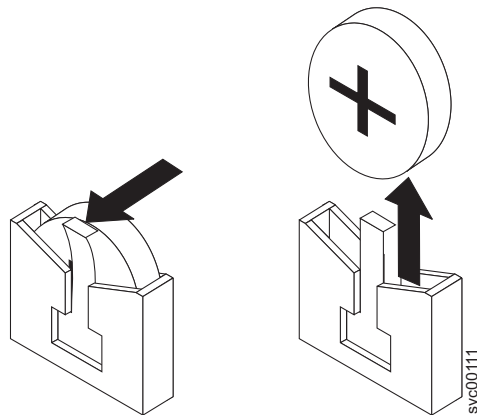

Figure 111. SAN Volume Controller 2145-8F2 or the SAN Volume Controller 2145-8F4 CMOS battery holder
- a. Use one finger to pull the retainer tab, which is shown in Figure 111, that secures the battery to its housing.